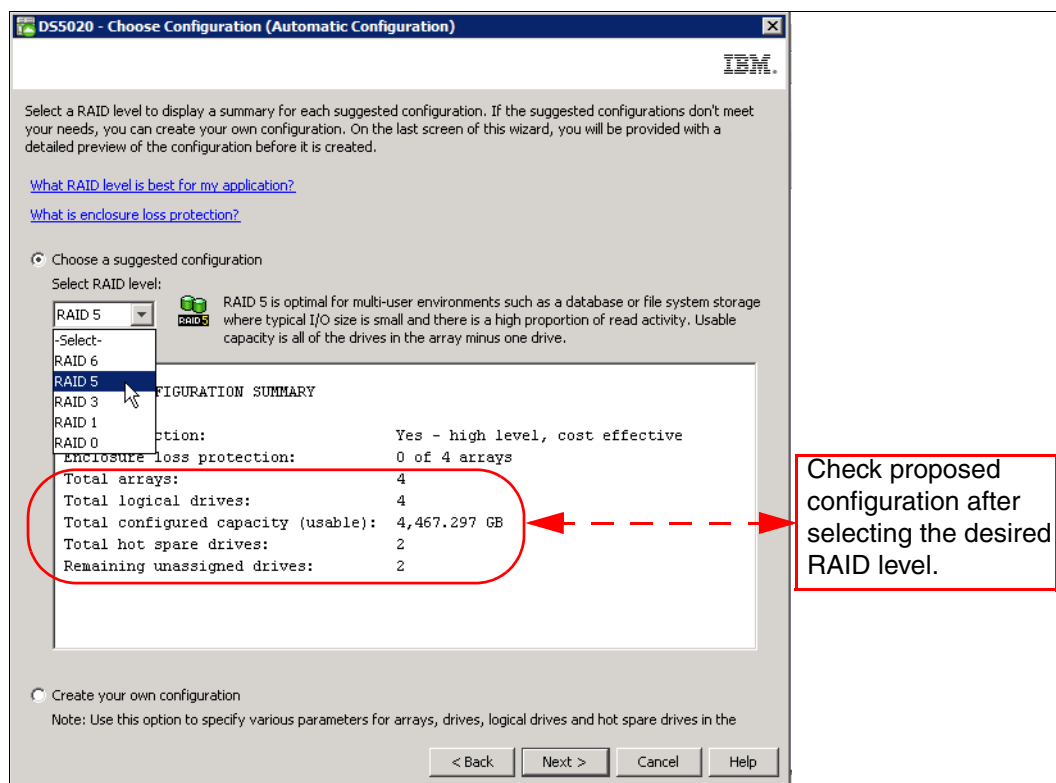

Figure 3-43 Choosing the RAID level
3. In the window that follows, choose between **Choose a suggested configuration**, selecting the RAID level desired, or **Create your own configuration**, as shown in Figure 3-43.